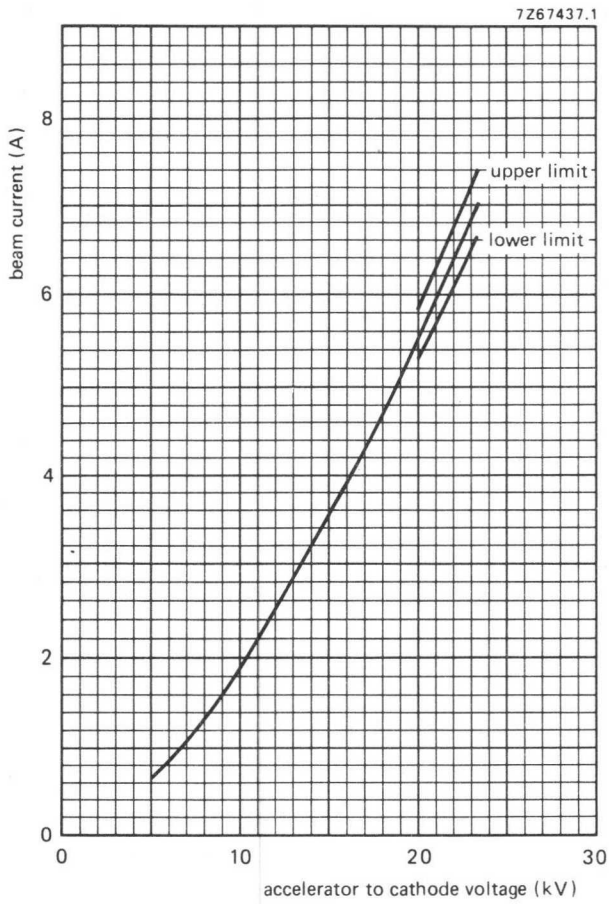

Fig. 4.
8. If the accelerator electrode is connected to the body (ground) via 10 k $\Omega$  resistor, the beam current is within  $\pm 5\%$  of the value given in the graph of Fig. 4.